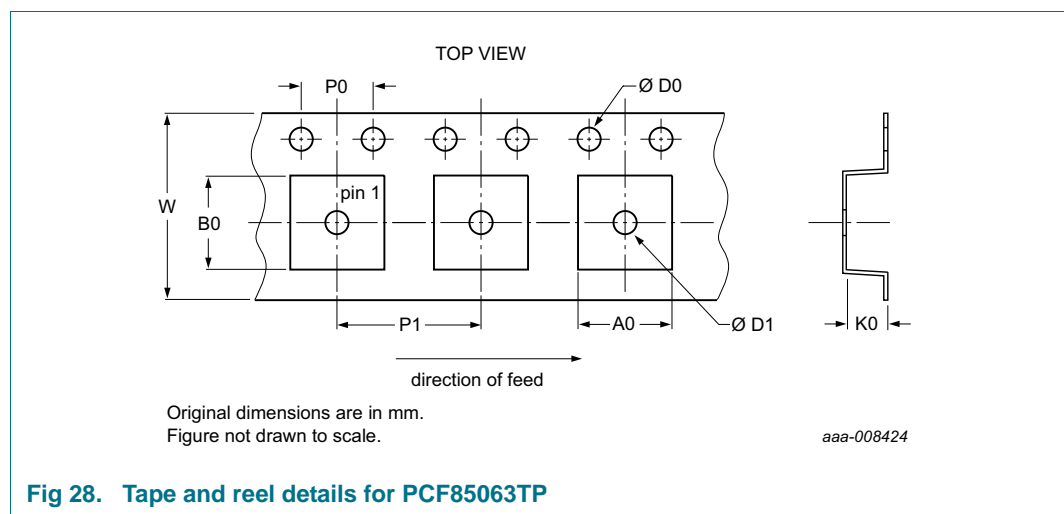

Fig 28. Tape and reel details for PCF85063TP
Modifications:	<ul style="list-style-type: none"> • Corrected sales item (12NC) and delivery form description in Table 2 • Corrected packing information in Figure 28